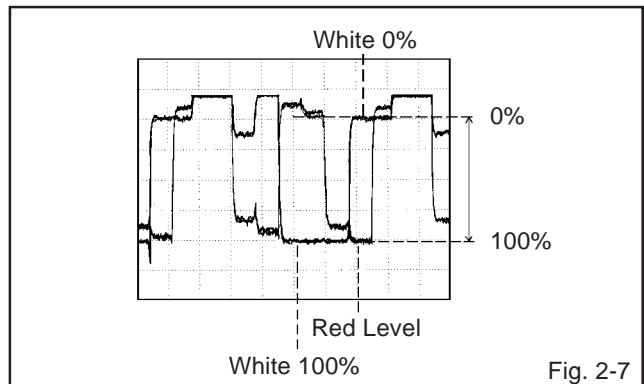

Fig. 2-7
7. Press the VOL. UP/DOWN button on the remote control until the red color level is adjusted to $100 \pm 5\%$ of the white level. (**Refer to Fig. 2-7**)